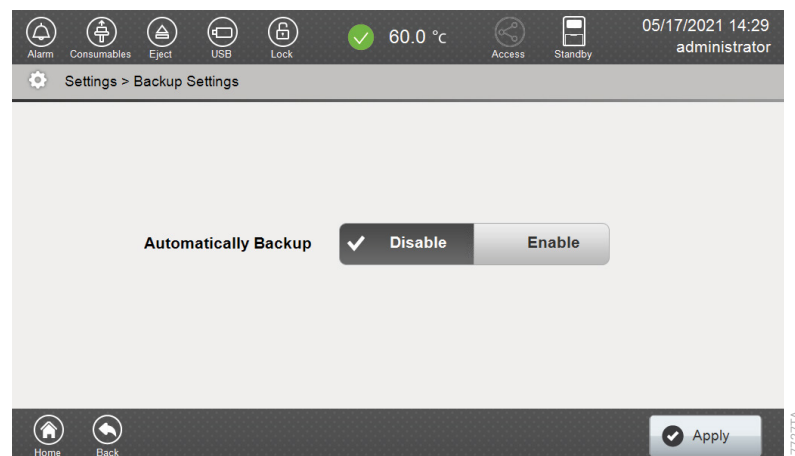

Figure 168. 'Backup Settings' screen.
2. Select **Enable** to activate the system backup or **Disable** to deactivate system backup, and then choose **Apply** (Figure 168).